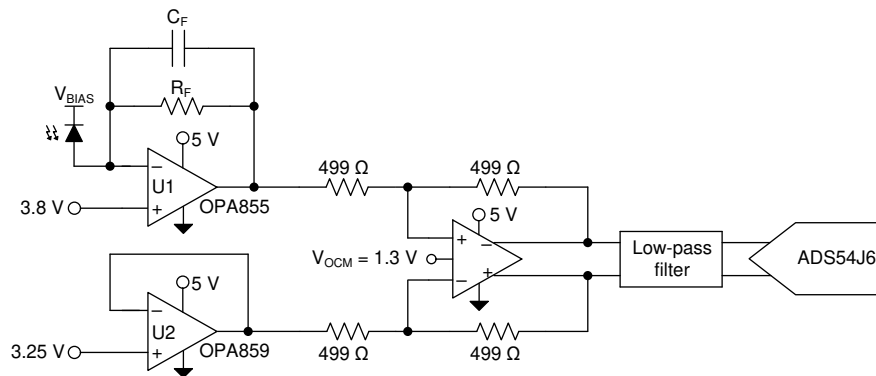
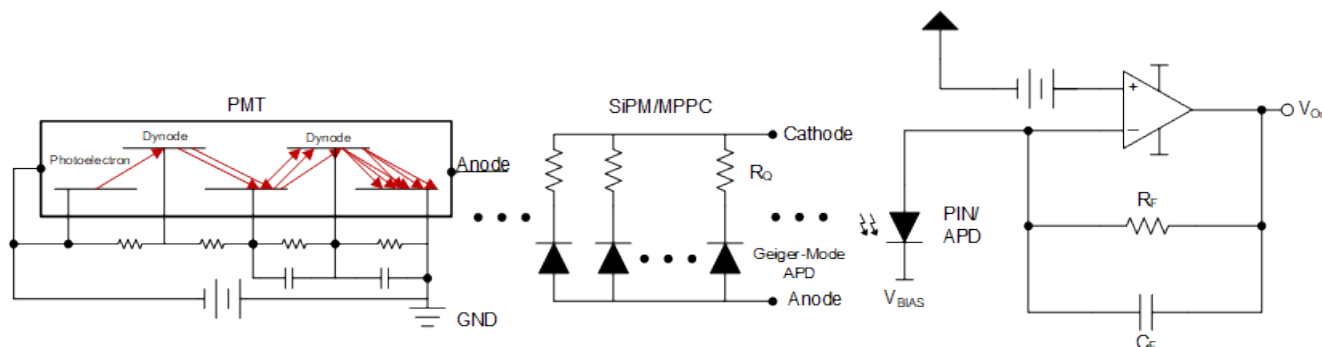

图 10-1. OPA855-Q1 as a TIA in an Optical Front-End System
图 10-5. Transimpedance Amplifier with APD or SiPM/MPPC or PMT Inputs
图 10-1 shows the OPA855-Q1 configured as a transimpedance amplifier (U1) in a wide-bandwidth, optical front-end system. A second amplifier, the OPA859-Q1, configured as a unity-gain buffer (U2) sets a dc offset voltage to the THS4520. The THS4520 is used to convert the single-ended transimpedance output of the OPA855-Q1 into a differential output signal. The THS4520 drives the input of the ADS54J64, 14-bit, 1-GSPS analog-to-digital converter (ADC) that digitizes the analog signal.
图 10-1 shows the OPA855-Q1 configured as a TIA, with the avalanche photodiode (APD) reverse biased so that the APD cathode is tied to a large positive bias voltage. In this configuration, the APD sources current into the op
OPA855 offers 8 GHz of gain bandwidth, high slew-rate, and low noise which makes this device suitable for a wide range of photodetectors. Figure 10-5 shows the OPA855 configured as a transimpedance amplifier (TIA) in a wide-bandwidth, optical front-end system. Various types of optical sensors can be used as an optical input to the amplifier: photodiode (PD), avalanche photodiode (APD), Photomultiplier Tube (PMT), and Multi-Pixel Photon Counter (MPPC) or known as Solid-State Photomultiplier (SiPM). Optical detection applications have commonly used APDs, but ultra-low light source detection has been a challenge in past solutions. With technologies such as PMTs and MPPCs, their high intrinsic gain, while maintaining a fast output, requires a low noise, high-speed interface. The OPA855 can accommodate for these optical challenges and would work equally as well in these applications.
图 10-5 shows the OPA855 configured as a TIA, with the optical sensor reverse biased so that the diode cathode is tied to the positive bias voltage. A RC filter can be used at the reverse bias node as a low pass filter to eliminate high frequency noise. The internal capacitance of photodetectors will vary based on sensor type and the value of the applied reverse voltage. The setups between each sensor type will slightly differ, but the connection to the amplifier will be consistent throughout.
The DC voltage bias at the non-inverting input of the OPA855 shown in 图 10-5 will set the common-mode voltage which will maximize the output swing of the system in mismatched power supply configurations. The DC bias is critical to avoid clipping or saturating the output stage of the amplifier. For the later stages, a fully differential amplifier (FDA) can be used to convert single-ended signal to a differential input to drive an analog-to-digital converter (ADC) as shown in 图 10-1. Higher order filters can be added between the FDA and ADC for system noise reduction.